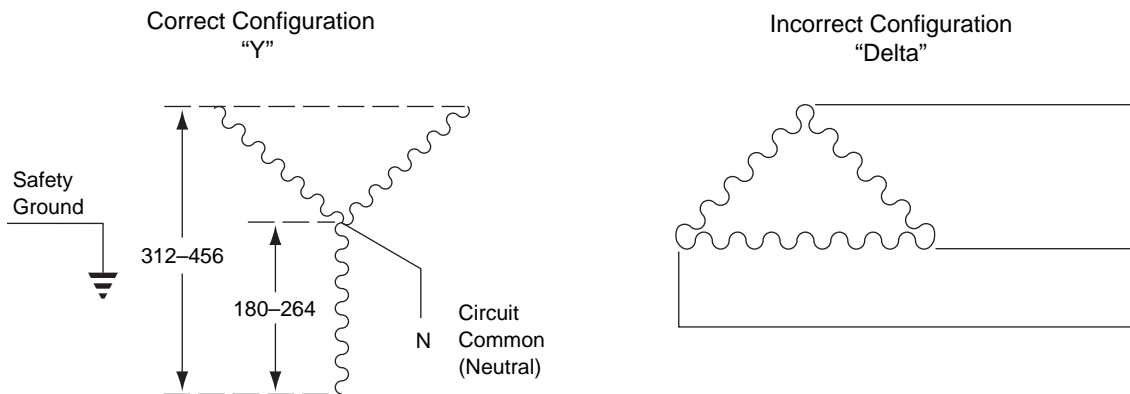

Figure 1-3. Correct and Incorrect Three-Phase Power Configurations
For three-phase power service to the centrifuge, use the “Y” connected configuration shown in Figure 1-3. Also note the following information:
- The centrifuge can tolerate a drop of 15 volts during the start period at low line voltage (see Figure 1-3 for the acceptable voltage ranges). The mains power for the centrifuge must be of sufficient wire gauge to provide this condition. The wire gauge required at a particular site must be determined by a facilities engineer at that site.